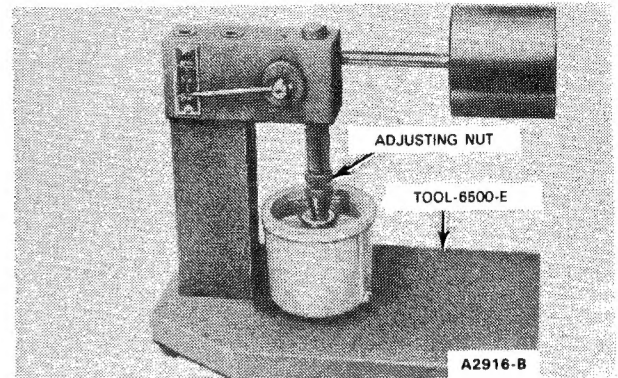

FIG. 8 Adjusting the Ram Length
3. Adjust the length of the ram (Fig. 8) so that the pointer is 1/16 inch below the starting mark when the ram contacts the valve lifter plunger, to facilitate timing as the pointer passes the Start Timing mark.